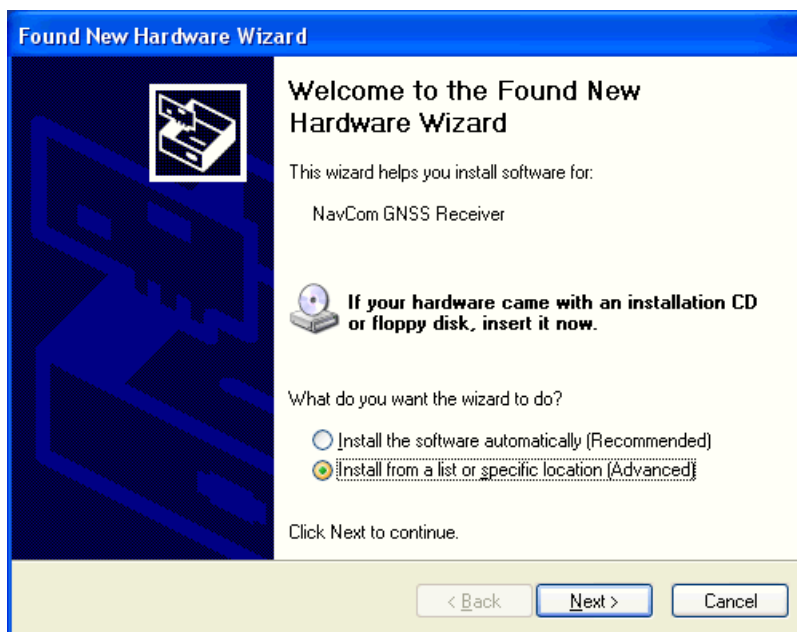

Figure 33: Found New Hardware Wizard/Install Software
4. On the *Welcome to the Found New Hardware Wizard* dialog box, select the option *Install from a list or specific location (Advanced)*; then click the *Next* button (refer to Figure 33).